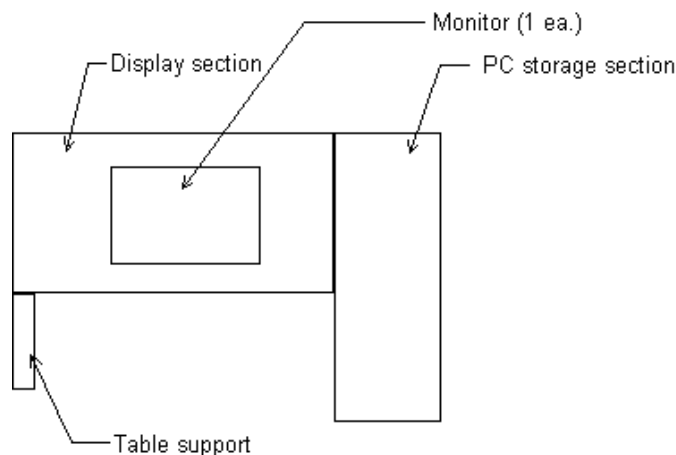
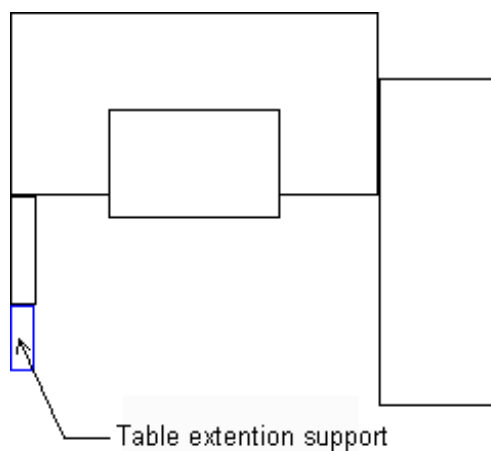

Figure 3-6: Standard Display (Top View)
Figure 3-7: S2 Display (Top View)
The procedure to modify a standard display (**Figure 3-6**) to a S2 display (**Figure 3-7**) is shown below.
8. Pull the monitor table forward as shown in **Figure 3-7** and secure the display section and the monitor table using the screws (4 ea) removed in step 5.